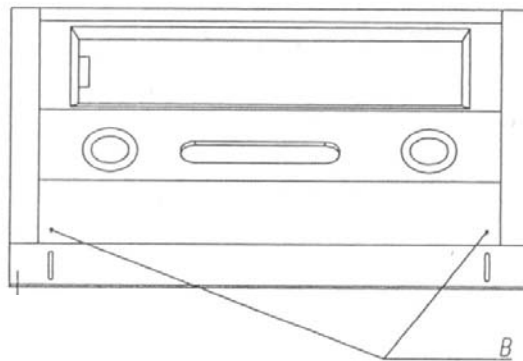

Fig. 3
- To adjust the bottom of the unit to the required depth use the screws located on the underside of the unit as per Fig 3 below.